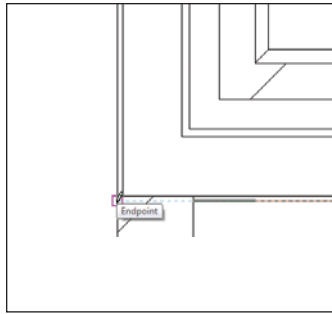

FIGURE 2.49 Adding to the mess in the corner
3. To start the wall, pick the intersection where the CMU wall abuts the finish inside face of the exterior wall (see Figure 2.49).